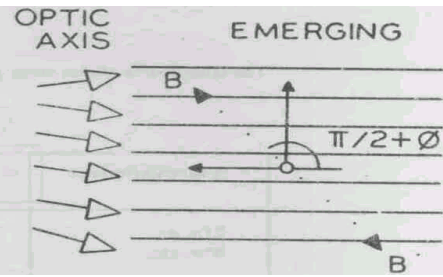

Fig. 12.6
**Question:** What are the Amplitudes of the two components in the analyser direction? (refer to the previous Figure 12.6)
To start, you have to begin with two vectors each of size  $E = A \sin \phi \cos \phi$  , but with a phase difference of  $(\gamma + \pi)$  , since when  $\phi$  is zero the two are oppositely directed, from the Fig.12.6. So, the transmitted intensity is the square of the sum of the two vectors.